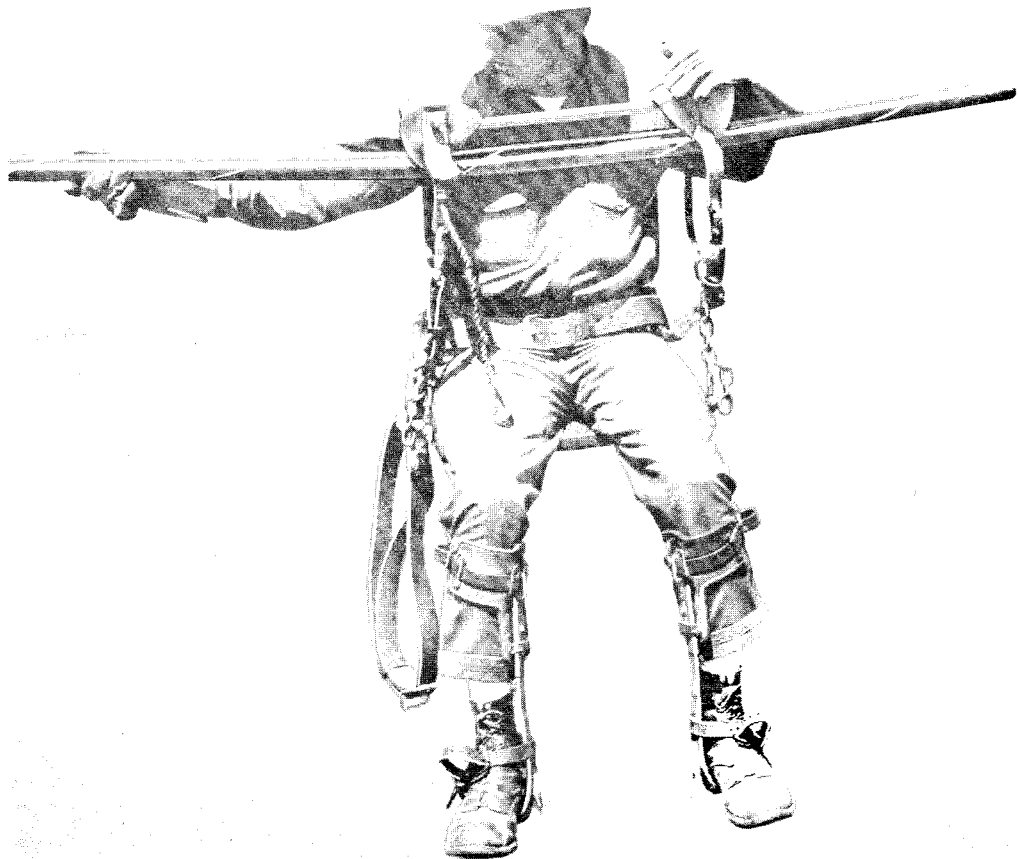

Fig. 5—Rider Secured in Cable Car
6.02 Assume a position on the pole with strand attachment approximately waist high. Place the safety strap around the pole beneath the strand. Pass the car seat behind the head with the tubular frame in front of the craftsman (Fig. 2). Move around the pole and place the rollers of the car on the strand and set the brake. Position the car seat under the upper portion of the legs and climb down the pole into the seat. Place the cable car straps around the outside of the cable car frame and the cable. Then attach them to the Dee rings of the body belt (Fig. 3). Unfasten the safety strap and attach both snap hooks to one Dee ring of the body belt as shown in Fig. 5.
Place the safety strap around the pole. Move around the pole and place the car on the strand with the tubular frame on the near side of the craftsman and set the brake. Unsnap one side of the seat from the chain, pass the seat behind the upper portion of the legs, and refasten the chain (Fig. 4). Attach the cable car straps and safety straps as outlined in 6.02. (Fig. 5)